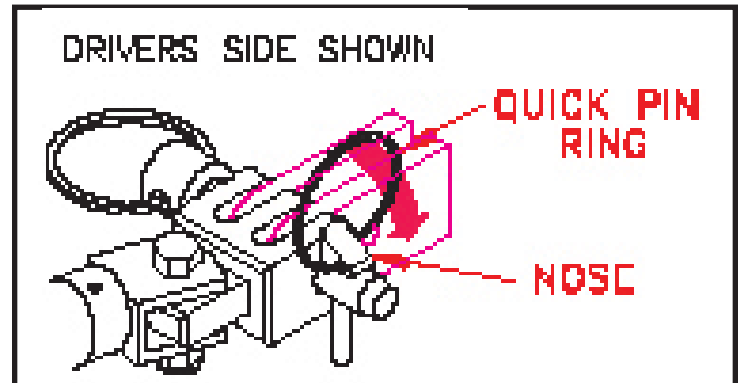
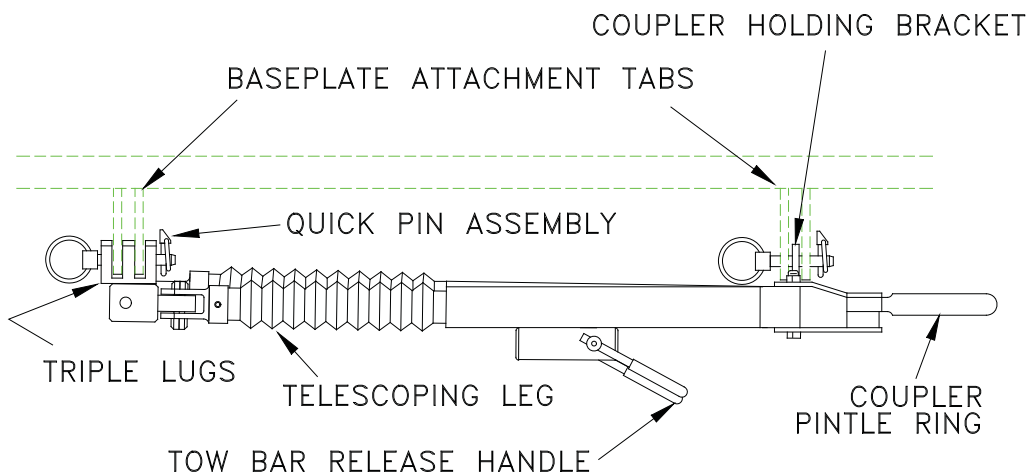
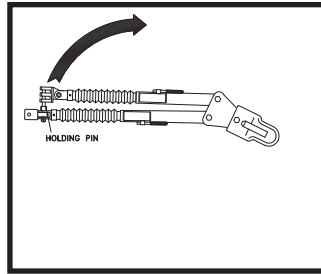

Figure 2
Figure 1
Figure 3
1. Using the cable hooks, attach the cables to a solid part of the chassis of the towed vehicle or to the convenience links. Be sure that the safety snap returns to its original position to prevent the hook from unhooking. (See Fig. 3) **NOTE:** It is best to have permanent chains that connect the convenience links to the frame of the car. (See Fig. 2)
2. **NOTE: Do not wrap safety cables around legs or damage could occur to rubber boot. If it is necessary to remove slack from the cables, wrap each once around their respective tow bar leg in front of the latch housing and then cross them under tow bar.** (See Fig. 1)
3. Using the cable hooks, attach the opposite ends of the cables to a solid part of the chassis of the towing vehicle if at all possible. Be sure that the safety snap returns to its original position to prevent the hook from unhooking. (See Fig. 3)
1. **Refer to figure 1 while installing the tow bar.** Hold the tow bar in position aligning the triple lug (with holding pin) onto the passengers side attachment tabs. Insert the 1/2 inch pin through the attachment tab and triple lug and secure with spring loaded wedge. **Refer to figure 2.** Next hold the pintle coupler end of the tow bar to the drivers side attachment tabs. Align the pintle coupler holding bracket (on under side of pintle coupler) between the driver side attachment tabs and insert the 1/2 inch pin through the tabs and bracket. Secure the 1/2 inch pin being sure the spring loaded wedge is popped up and through the triple lug to insure the pin is secure. **Refer to figure 2.**
*Make sure you are able to identify the tow bar parts, (Figure 1), before proceeding.*
2. Pull the top tow bar leg off the holding pin of the other leg (Figure 3).
4. Extend the other tow bar leg over to the vacant attachment tab and insert the half 1/2" pin through the triple lug and the tabs. Insert the quick pin assembly into the half inch pin folding the ring knob side down. See Figure 2 of the **Installation** section.